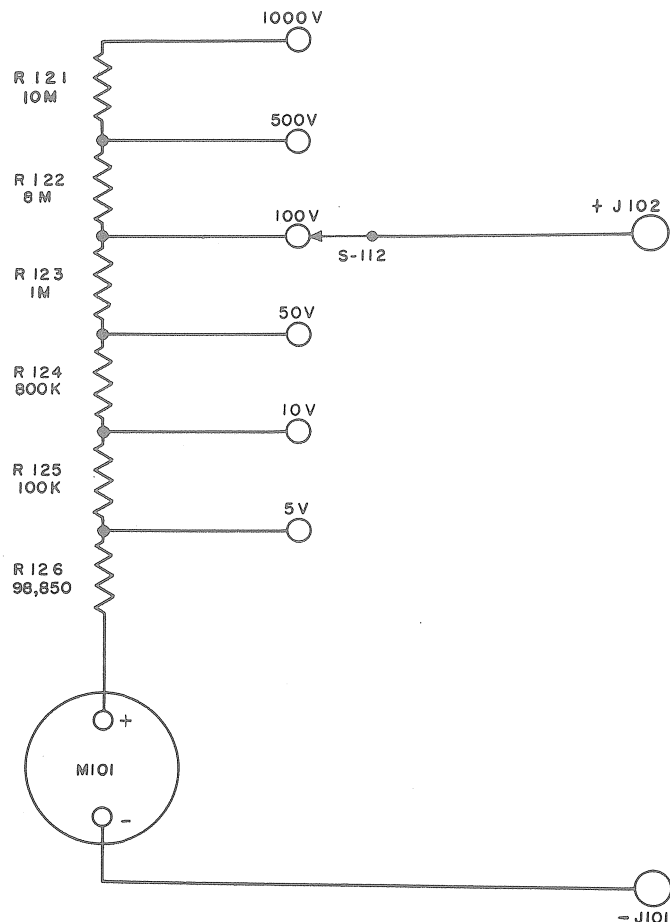

Figure 2-9.—Simplified DC Voltmeter Circuit.
a. VOLTS DC (See Figure 2-9)
(1) The dc voltmeter circuit consists of the METER M-101 and a series of multiplier resistors, R-121 through R-126.